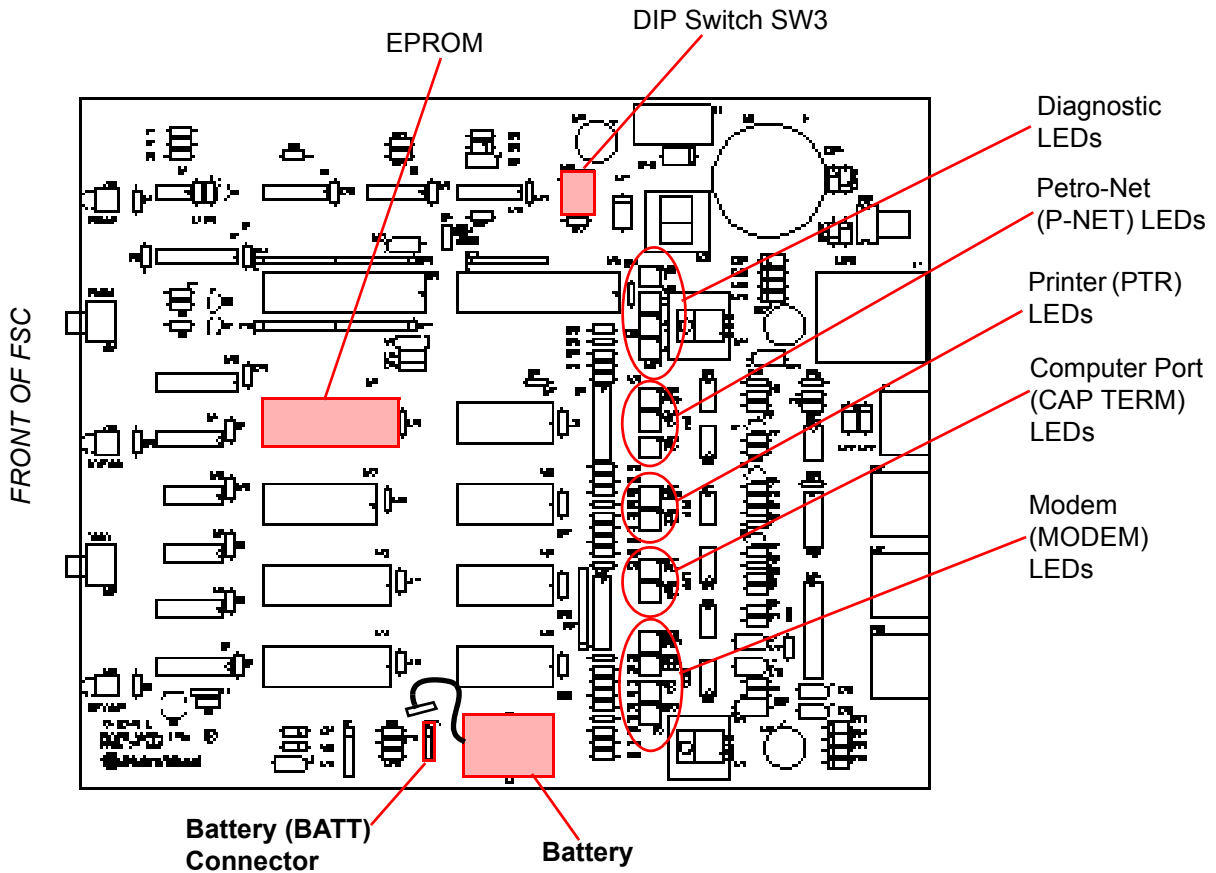

Figure 16: K800 Fuel Site Controller Board
*You must connect the battery to the BATT connector on the FSC board (Figure 16) before configuration.*
2. Plug the battery cable into the BATT connector on the FSC board (*Figure 16* on *page 24*).